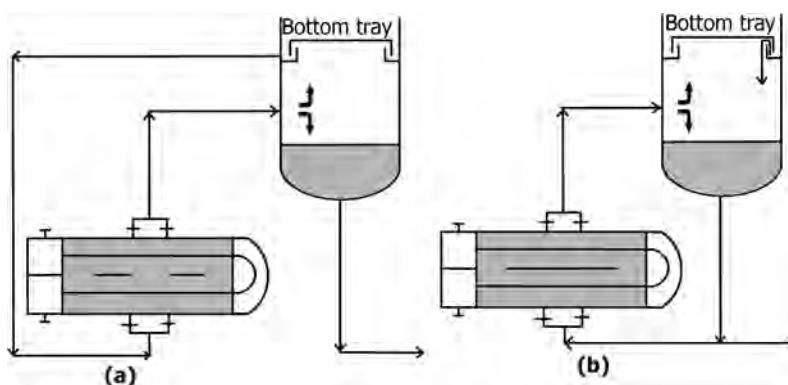

FIGURE 11.4 (a) Horizontal once-through reboiler with shell side boiling. (b) Horizontal recirculating reboiler with shell side boiling.
- Figures 11.4–11.7 are illustrative of common types of reboiler configurations, with horizontal or vertical arrangements.